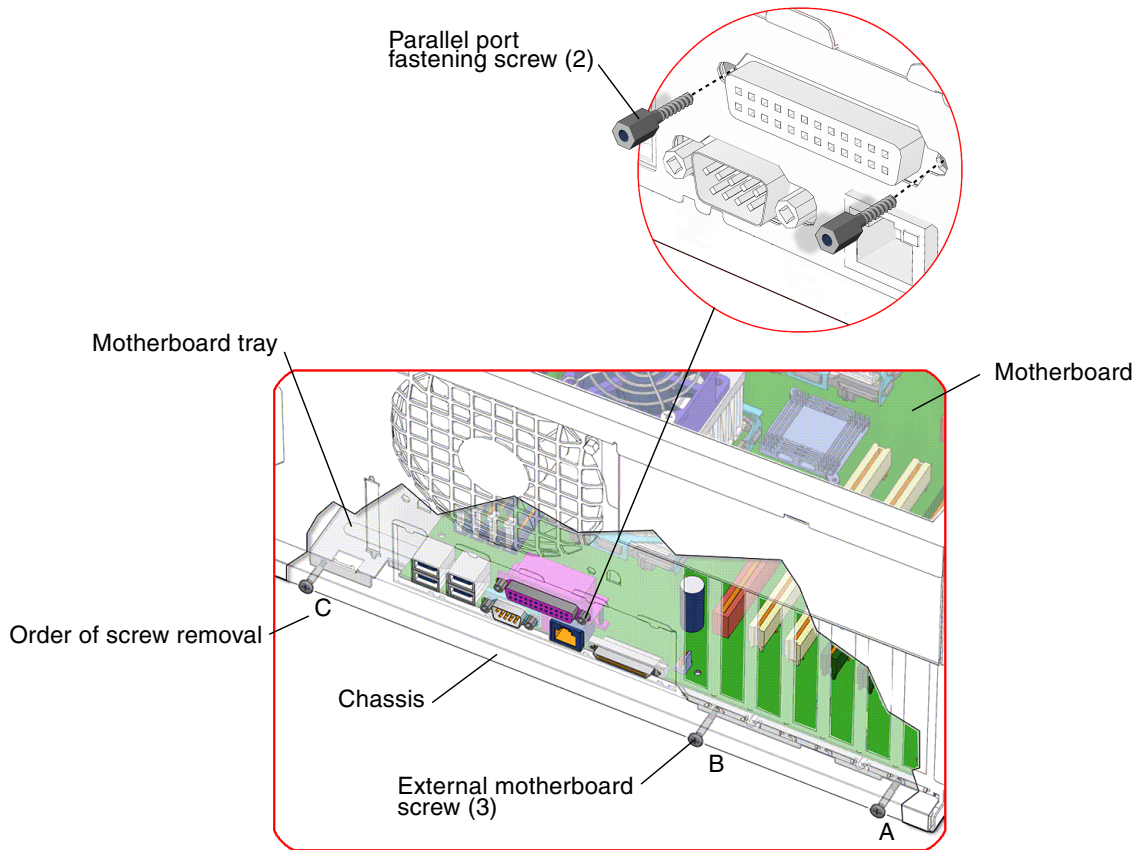

FIGURE 11-38 Removing the Parallel Port Fastening and External Motherboard Screws
10. Remove the two parallel port fastening screws (FIGURE 11-38).